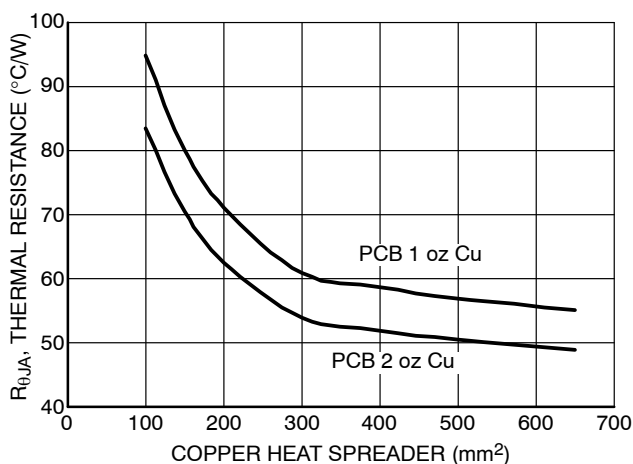

Figure 34. Thermal Resistance vs. PCB Copper Area (D2PAK-5)
dissipate up to 2.35 W (for D2PAK-5) when the ambient temperature (TA) is 25°C. See Figure 34 for RθJA versus PCB area. The power dissipated by the NCV8772 can be calculated from the following equations: